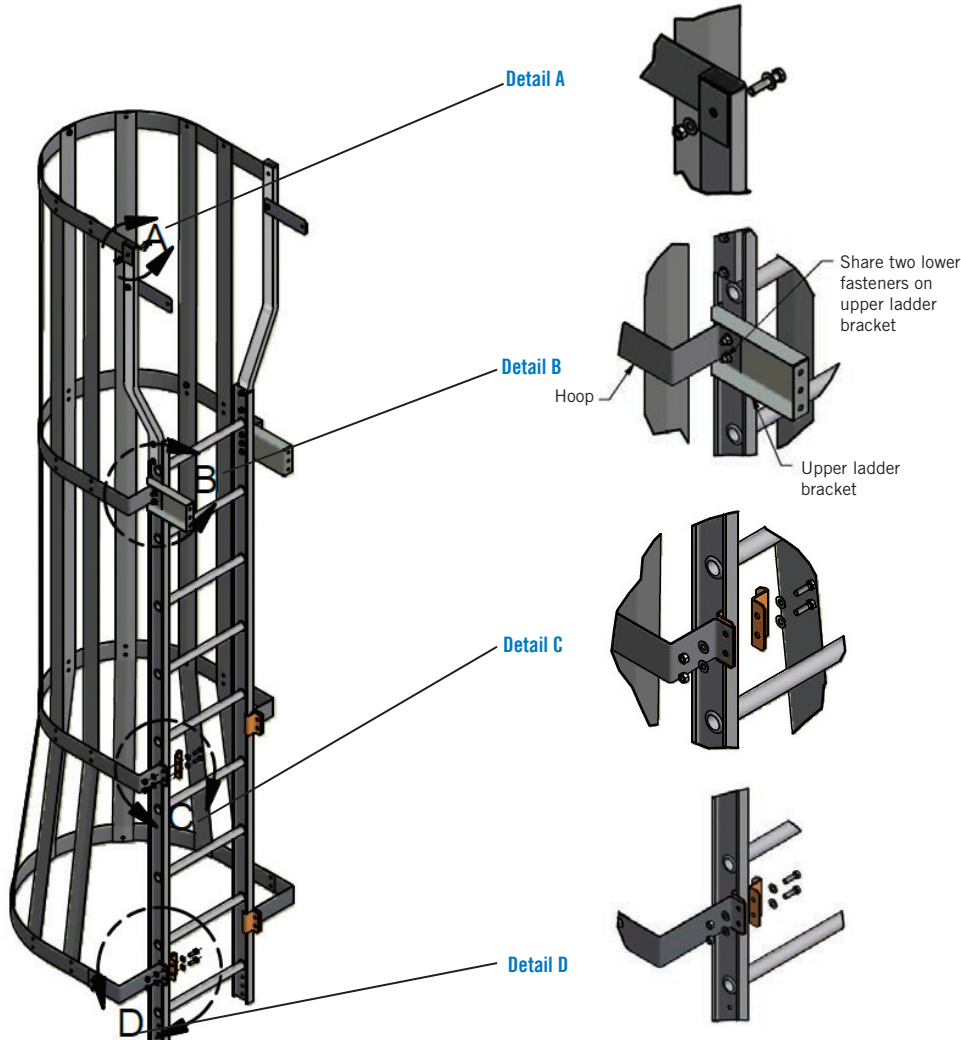

Figure 36. Safety Cage
2. Bolt the safety cage to the ladder using flatwashers and locknuts. Orient all fastener with bolt heads inside safety cage. See **Figure 36, Detail A through D** and refer to **Table 3** for the quantity of bolting locations for different safety cage heights.